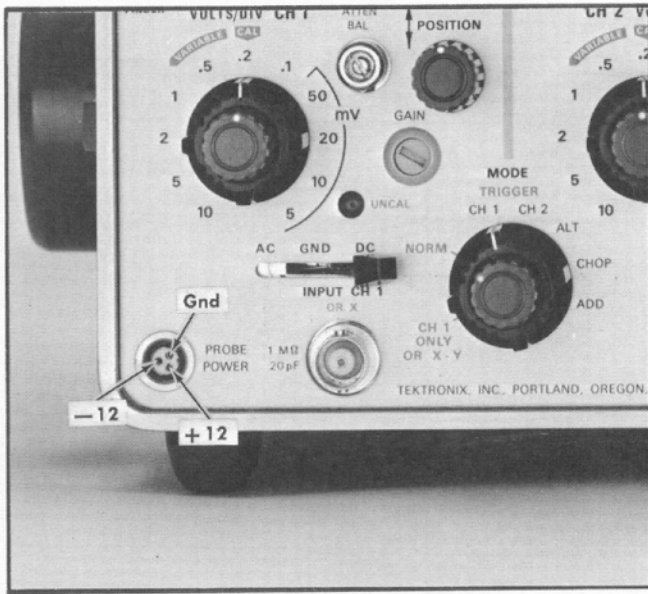

Fig. 5-1. Location of terminals in the CH 1 and 2 PROBE POWER connectors.
a. Connect the DC voltmeter between the +12-volt terminal of the CH 1 PROBE POWER connector (see Fig. 5-1) and the ground terminal.
c. Connect the DC voltmeter between the —12-volt terminal of the CH 1 PROBE POWER connector (see Fig. 5-1) and the ground terminal.
e. Connect the DC voltmeter between the ground terminal of the CH 1 PROBE POWER connector (see Fig. 5-1) and chassis ground.
g. Connect the DC voltmeter between the +12-volt terminal of the CH 2 PROBE POWER connector (see Fig. 5-1) and the ground terminal.
i. Connect the DC voltmeter between the —12-volt terminal of the CH 2 PROBE POWER connector (see Fig. 5-1) and the ground terminal.
k. Connect the DC voltmeter between the ground terminal of the CH 2 PROBE POWER connector (see Fig. 5-1) and chassis ground.